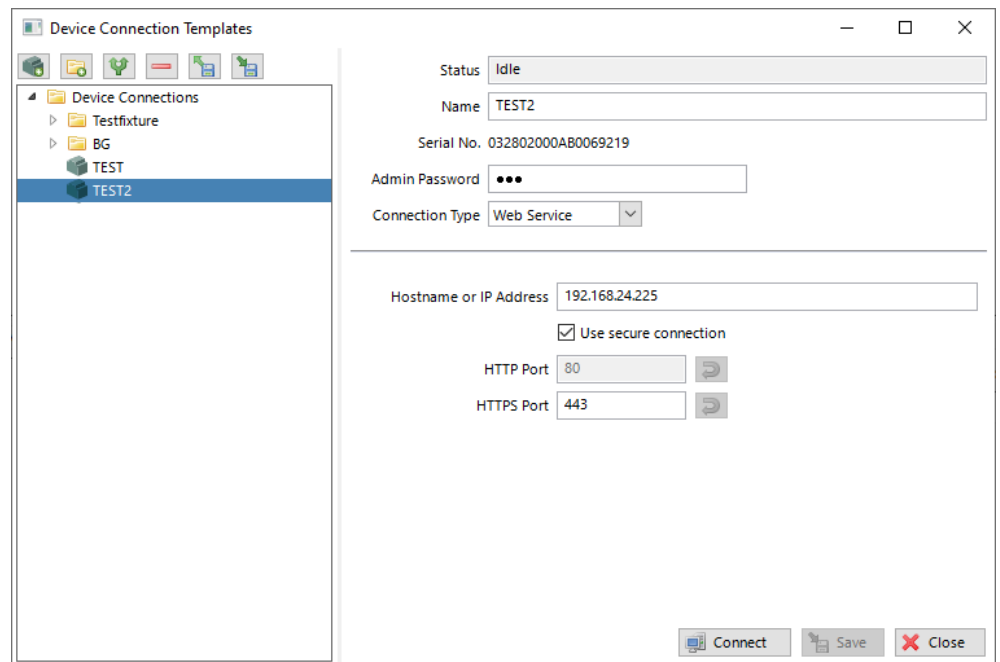

Figure 110: Device connection dialog.
2. Select the menu: **Connection → Connect to device**. This opens the device connection dialog as shown in Figure 110.